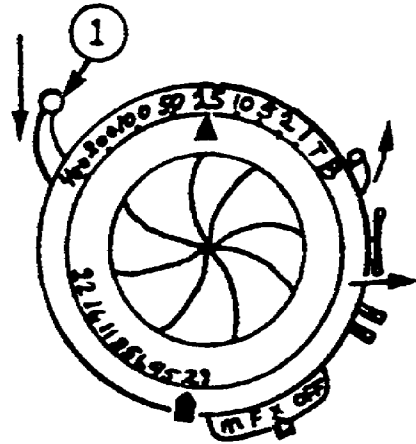

Figure 1-42. Shutter Release Lever.
(7) Lens and shutter assembly adjustment.
(a) After completing the focusing procedures (para a and b), depress the shutter release lever ①, (fig 1-42), to close the shutter.